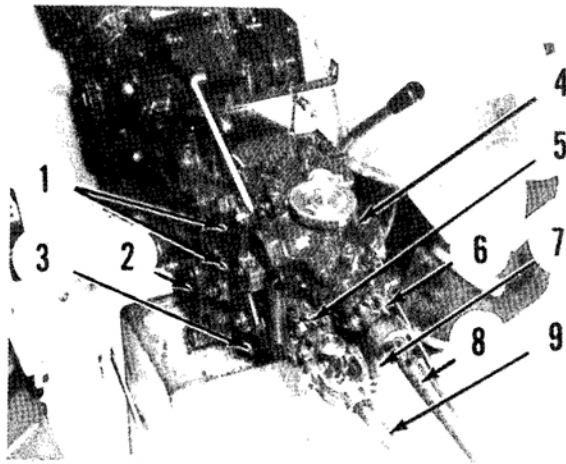

Fig. 53—Refer to text for removal of components shown in view.
66. Split clutch housing from transmission case as outlined in paragraph 65. Remove pin (6—Fig. 53), then separate propeller shaft (8) from transmission. On models equipped with